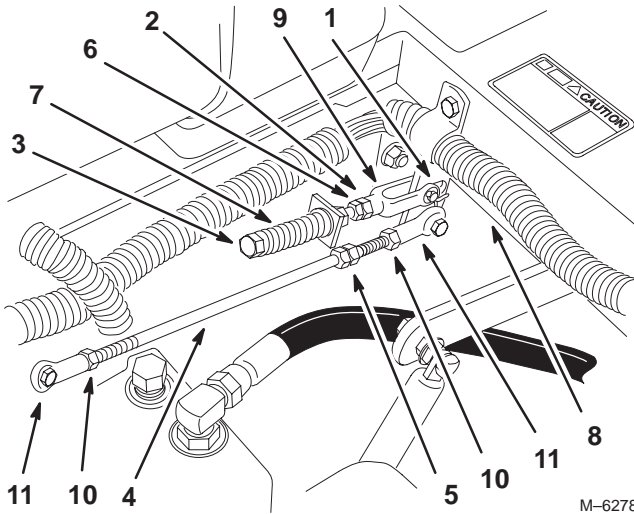

Figure 57
5. Move the lever to the neutral position but **not locked** (Fig. 57).
6. Pull lever back until the clevis pin (on arm below pivot shaft) contacts the end of the slot (just beginning to put pressure on the spring) (Fig. 57).
8. If adjustment is needed, loosen the nut and jam nut against the yoke (Fig. 57).
10. Tighten the nut and jam nut (Fig. 57).
1. Loosen the locknuts at the ball joints on pump control rod (Fig. 57).
3. Adjust the pump rod length by rotating double nuts on rod, in the appropriate direction, until wheel is still or slightly creeps in reverse (Fig. 57).
6. Tighten the locknuts at the ball joints (Fig. 57).